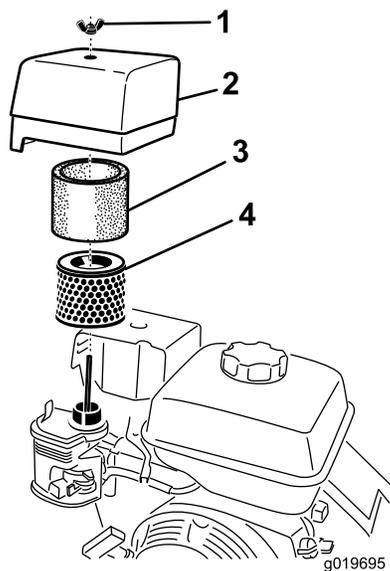

Figure 18
4. Remove the nut that secures the cover (Figure 18).
6. Remove the foam and paper elements from the base (Figure 18).
7. Remove the foam element from the paper element (Figure 18).